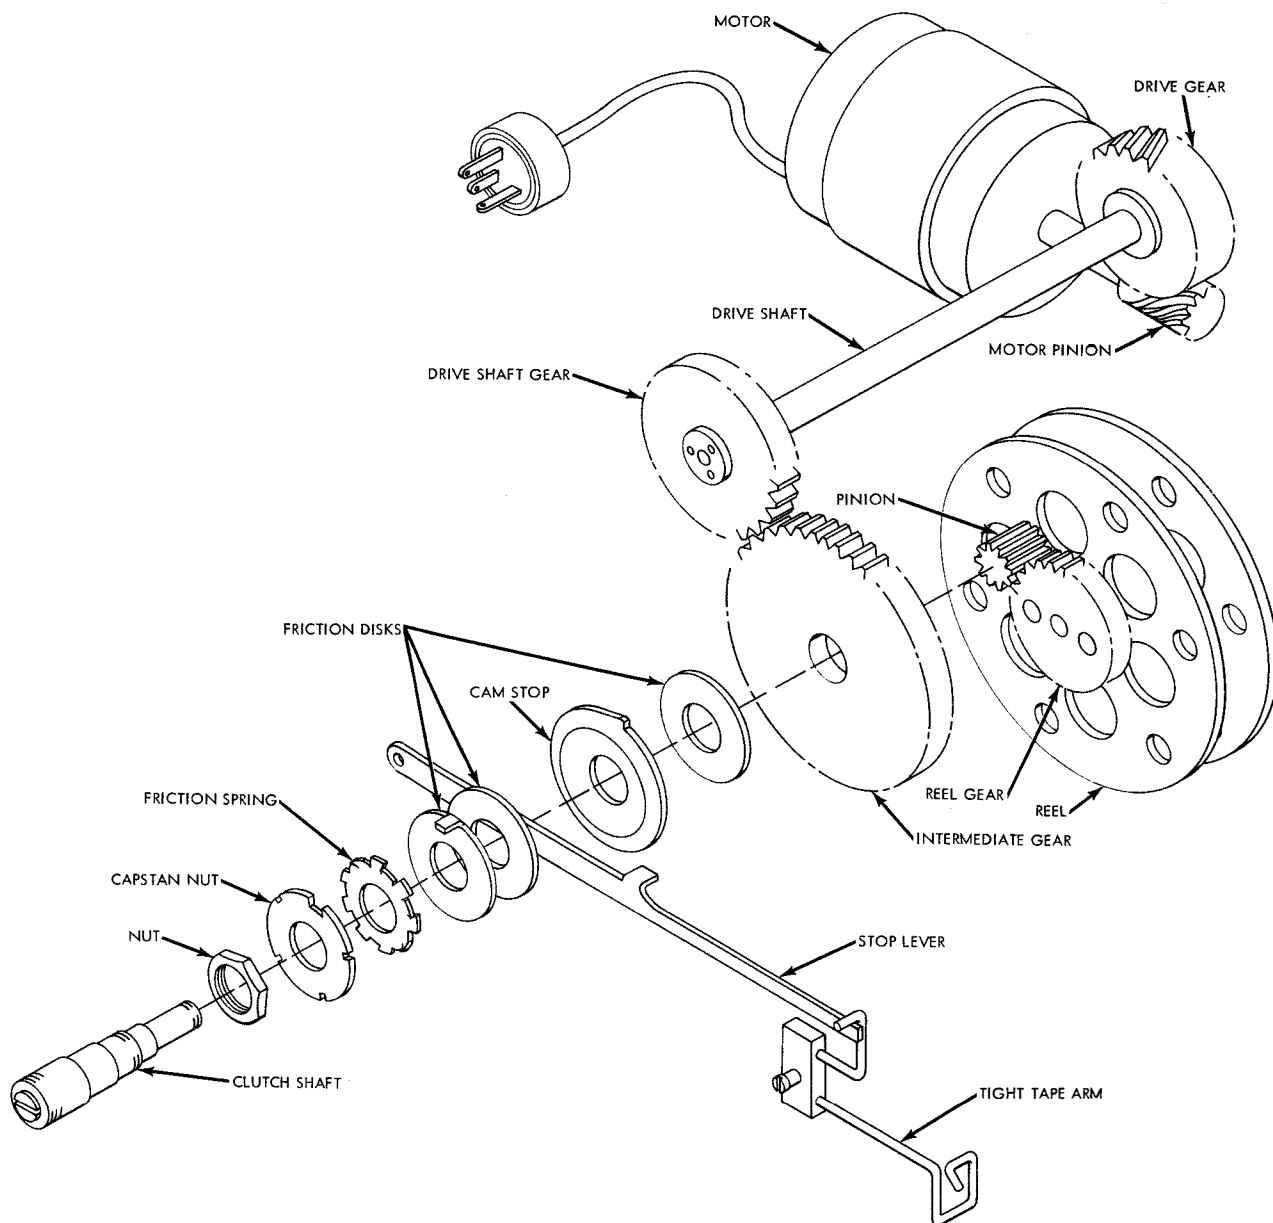

Figure 2-20. Motor Driven Tape Reeling Machine RL-173/FGC, Gear Train Diagram
a. REELING MACHINE RL-173/FGC. (See figure 2-20.)—The reeling machine is driven by the 115-volt a-c operated, 0.025-horsepower, shaded-pole motor rotating at 1550 revolutions per minute. The 7-toothed motor pinion gear on the end of the motor shaft meshes with the 40-toothed drive gear on the drive shaft. The drive gear rotates the drive shaft and the 108-toothed driven gear on the drive shaft at 271 rpm. The driven gear meshes with the 192-toothed intermediate gear which, in turn, rotates at 152 rpm. The intermediate gear, the clutch, and the reel pinion gear are all mounted on the clutch shaft. Assuming that the clutch is fully engaged, the intermediate gear drives the clutch shaft, through the clutch which drives the 10-toothed reel pinion gear at 152 rpm. The 144-toothed reel drive gear engages with the reel pinion gear when the reel is in the rear notches. This drives the reel at 10.6 rpm. The clutch system is a friction type blocked by the tight tape arm action. The tape lifts or lowers the arm which acts on the stop lever. The stop lever